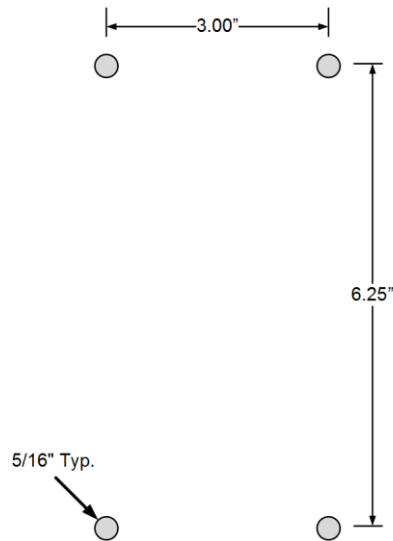

Figure 7. Outdoor Mount Drill Pattern
- Drill out the four (4) mounting bolt locations using a $5/16$ " drill bit for the mounting bracket on the side of the panel using the dimensions in Figure 7 below.